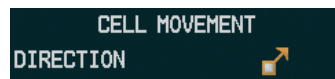

Figure 6-21 Cell Movement Legend
- 1) Press the **MAP** Softkey (for the PFD Inset Map, press the **INSET** Softkey). This step is not necessary on the Weather Data Link (XM) Page.
- 2) Press the **NEXRAD** Softkey (**CELL MOV** Softkey on the Weather Data Link (XM) Page). For Cell Movement to be displayed on maps other than the Weather Data Link (XM) Page, Cell Movement must be enabled in the Navigation Map Setup Menu (see "Setting up and customizing weather data for the Navigation Map Page" procedure).
To display the Cell Movement legend on the Weather Data Link (XM) Page, (Figure 6-21), press the **LEGEND** Softkey when Cell Movement is selected for display.